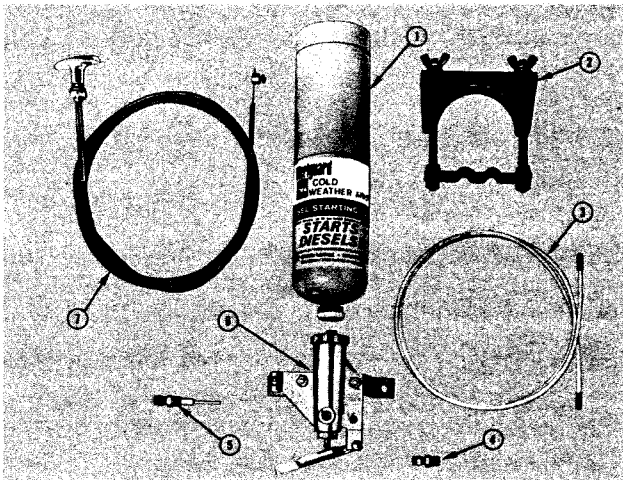

Fig. 1-11, (V11011). Manual operated valve
The manually operated valve, illustrated in Fig. 1-11 includes valve body assembly (6), clamp (2) and nylon tube (3). Fuel cylinder (1), atomizer fitting (5) and pull control (7) must be ordered separately.